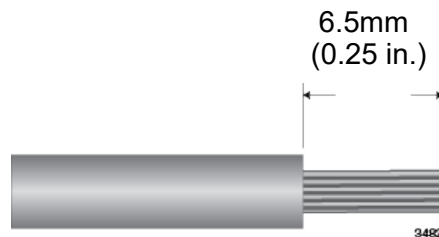

Figure 49. Stripping an Alarm Wire
1. Strip 6.5mm (0.25 in.) of insulation from the ends of the wires with a wire insulator stripper. Refer to Figure 49.